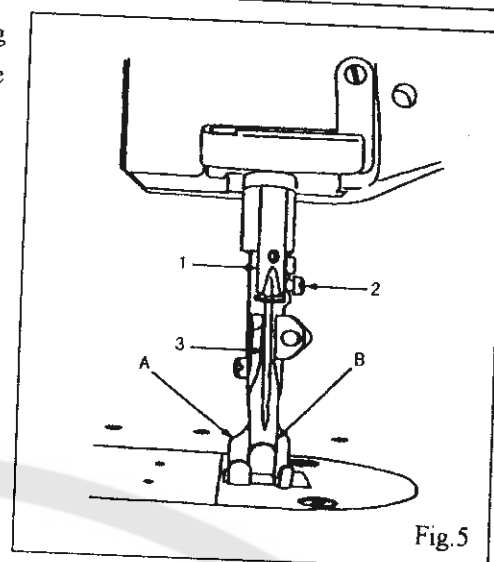

Fig.5
### 4. REPLACE NEEDLES (Fig.5)
2) When altering the lift of the lifting presser foot (A Fig.5) unequally against that of the vibrating presser foot (B Fig.5) or vice versa, see the instructions "ADJUSTING THE HEIGHT OF THE PRESSER FEET"